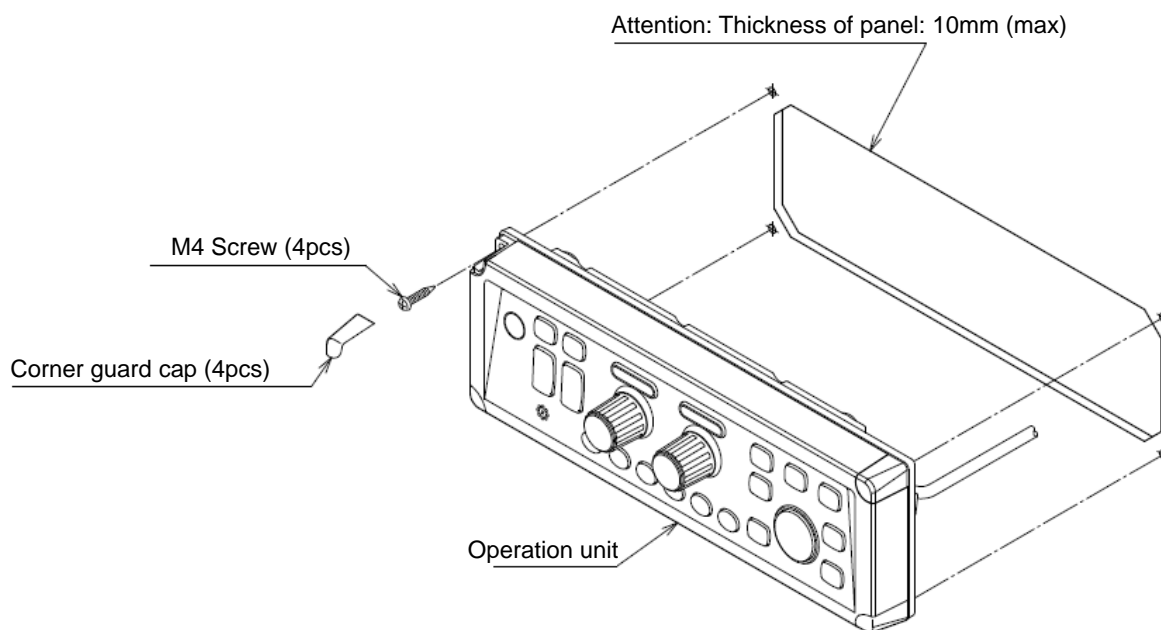
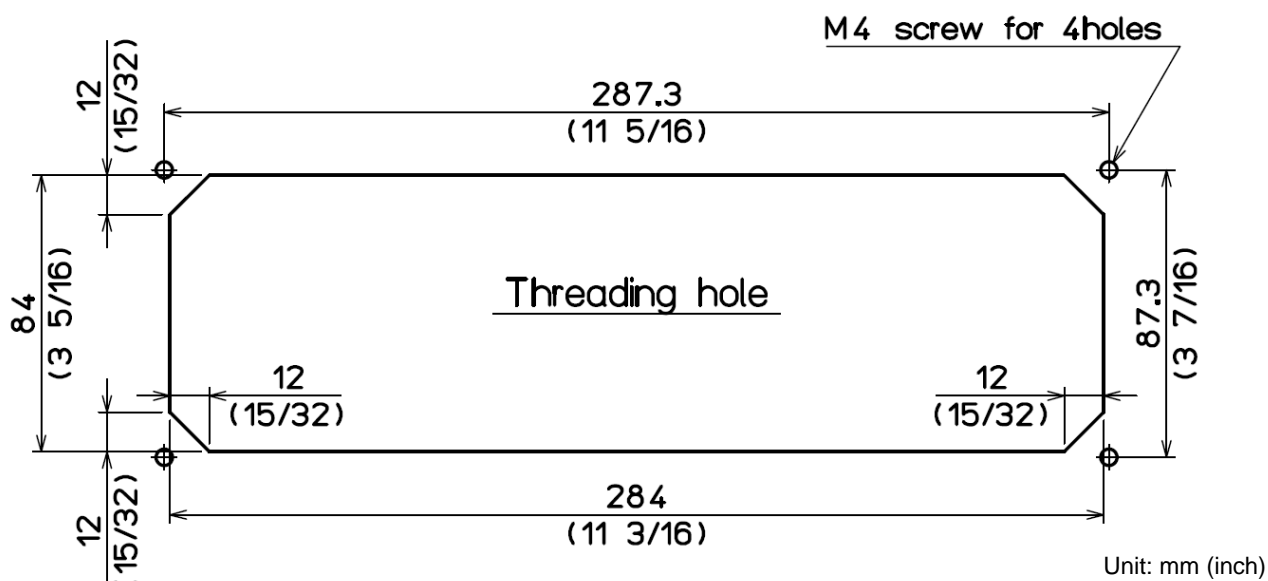

Fig. 1.13 Flush-mount installation of Operation unit
Fig. 1.14 Hole for flush-mount installation of Operation unit
- (1) Make a square hole at the location to be installed (See Fig.1.14)
- (2) Remove 4 plastic corner guard caps of the Operation unit (These can be easily pulled out upwards).
- (3) Confirm that the Operation unit matches the square hole. If not matches, correct the square hole.
- (4) Put the Operation unit and connected cable in the square hole, and set it to the position in which the Operation unit becomes parallel to the install panel. (Fig.1-13)
- (5) Install the Operation unit in the installing location (square hole) and fix it with 4 tapping screws (4mm) (M4 or pan-head). (Prepare 4 mm screws suitable for thickness of installing location.)
- (6) Install the corner guard caps removed in step (2).